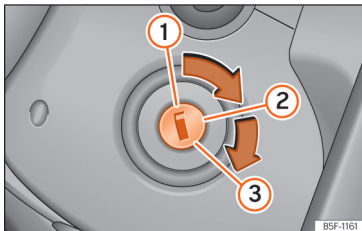

Fig. 208 Ignition key positions.
Key positions »» Fig. 208
- Turn the key to position »» **Fig. 208** . Preheating occurs in diesel vehicles .
- Keep turning the key to position »» **Fig. 208**  without stepping on the accelerator.
- *Vehicles with ignition locks:* Turn the key to position »» **Fig. 208** .